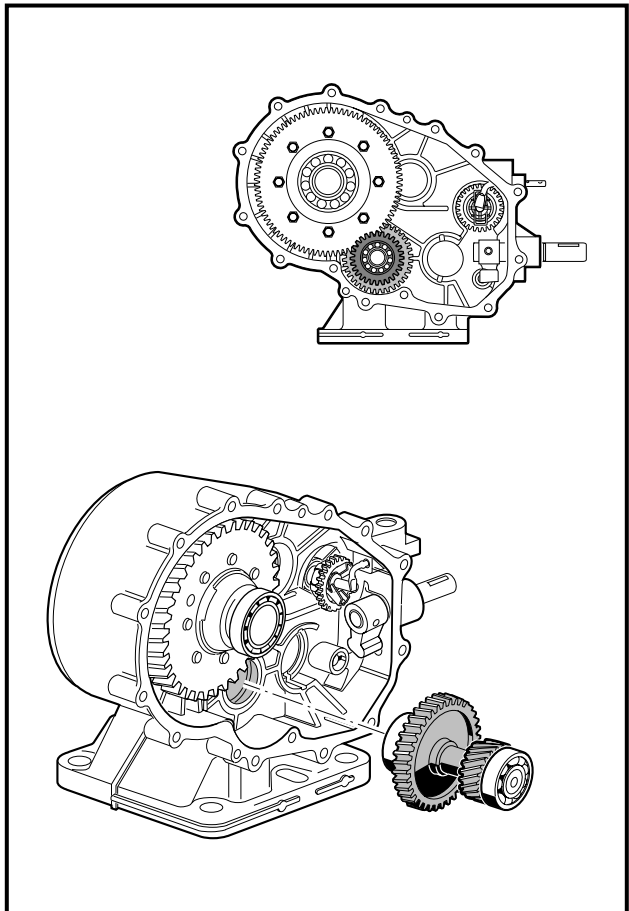

Figure 19-50 Idler Gear Assembly
- 7.2. Install the idler gear assembly into case. Do not seat the assembly in the bore. Instead, insert far enough that it will not fall out. No gears mesh at this point (**Figure 19-50, Page 19-24**).